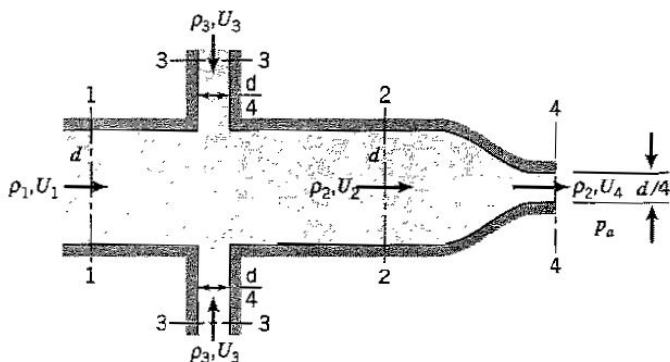

Figure P4.45
4.45 Two gases of density ρ_1 and ρ_3 are being mixed in the device shown in Figure P4.45. The device is of height d and constant width. Gas of density ρ_1 and velocity U_1 enters from the left, and it is mixed with gas of density ρ_3 and velocity U_3 entering through two ducts each of size $\frac{1}{4}d$. The mixing is complete at station 2, so that both the velocity U_3 and density ρ_3 are uniform across the duct. The mixture then accelerates smoothly through a contraction to exit at atmospheric pressure with a velocity U_4 and an unchanged density